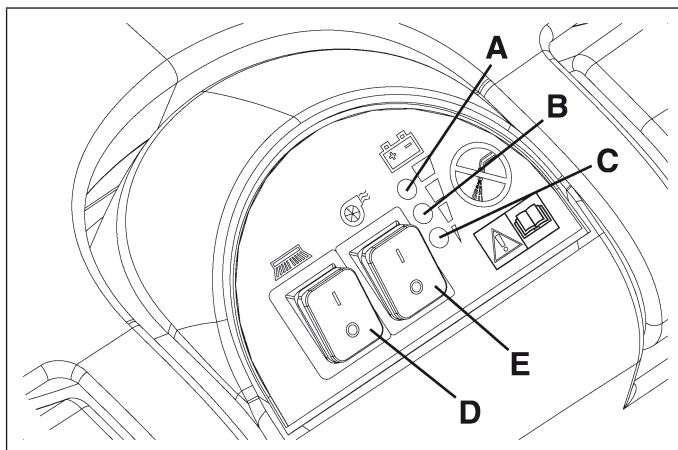

Figure 17
B, C, Fig. 17) flashing simultaneously.*
4. Until the green indicator light (A, Fig. 17) stays on, the batteries allow the machine to operate normally. When the green indicator light (A) turns off and the yellow (B) and red (C) warning indicator lights turn on in sequence, it is necessary to charge the batteries.
1. Turn the brush/pad rotation switch and the water vacuuming switch (D and E, Fig. 17) to the "0" position.